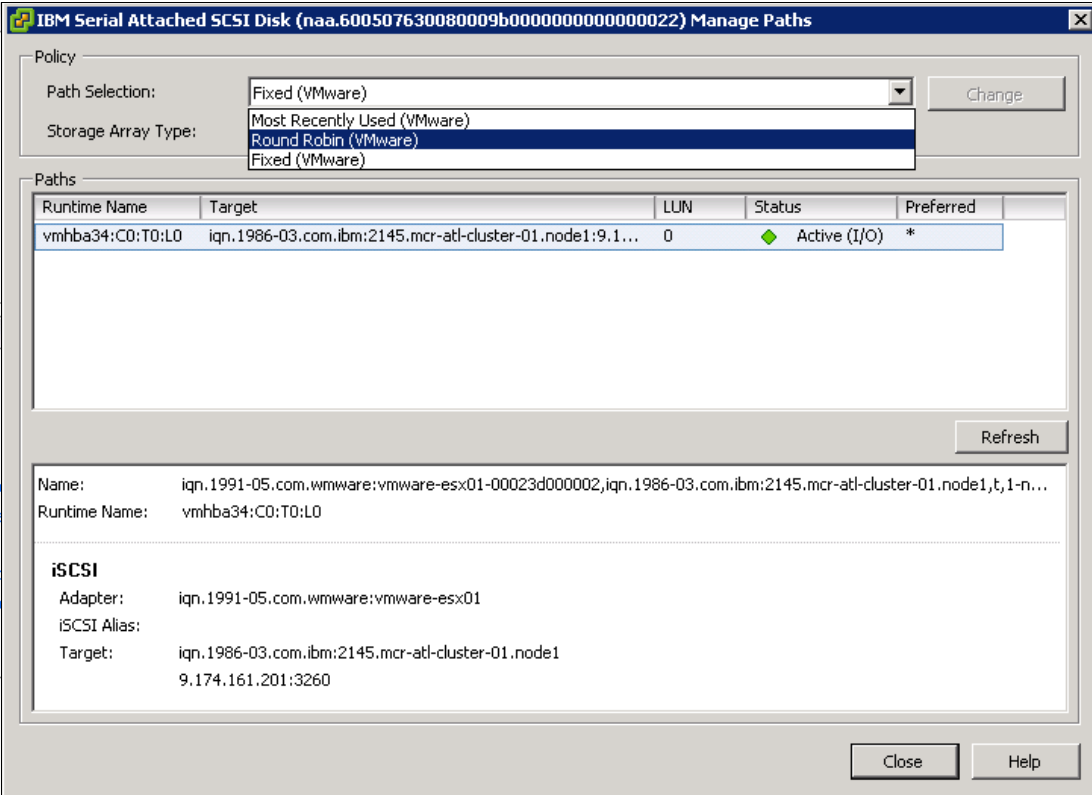

Figure 5-94 Change the multipath policy
15.Click **Manage Paths**, select **Round Robin** as the multipath policy (as shown in Figure 5-94), and click **Change**.